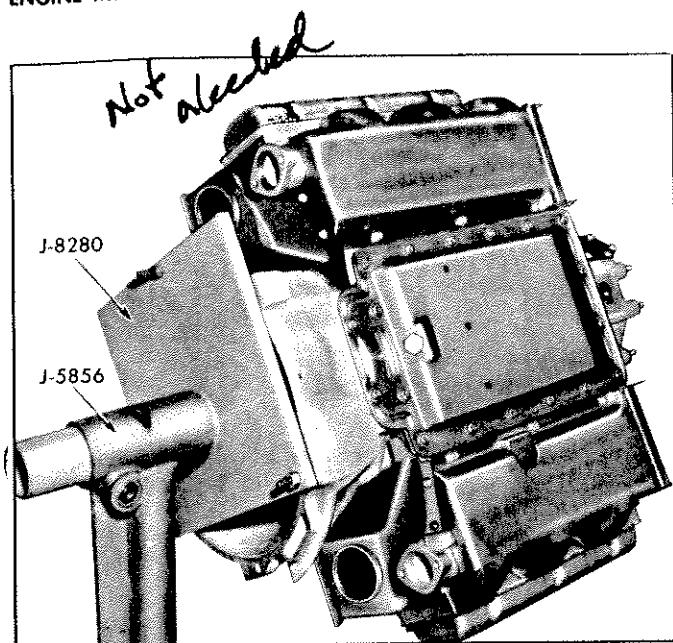

Fig. 50—Engine on Engine Stand
5. Install engine on engine stand (Tool J-5856) by mounting flywheel housing to adapter (Tool J-8280) (fig. 50).